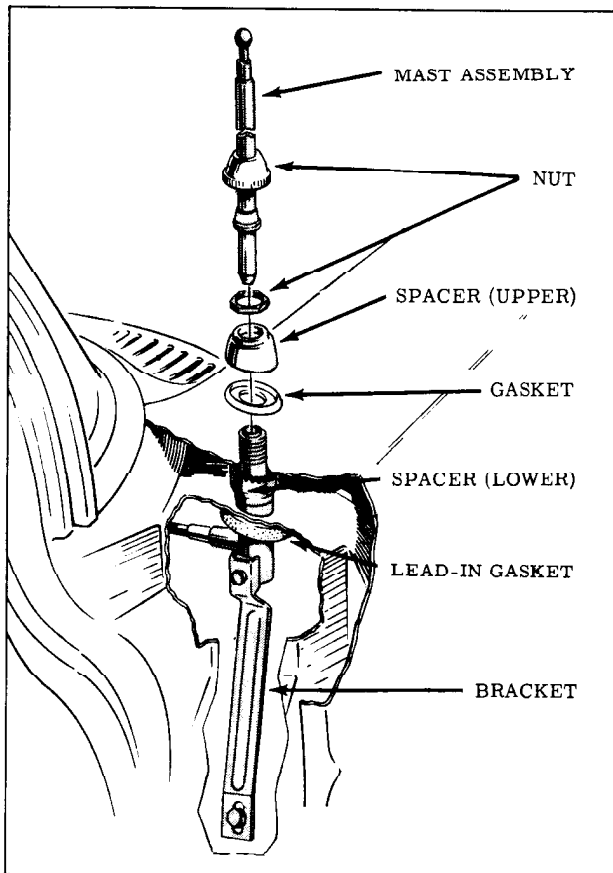

Fig. 15-16 Manual Antenna Installation
3. Refer to Fig. 15-16 and remove antenna assembly.